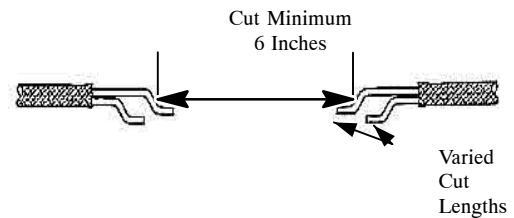

Figure 24. Jumper Wire Repair
- e. If a jumper wire is not required, remove a 2 inch section of wire in the damaged area as shown in Figure 24.
- f. If jumper wire must be used remove 6 inches of wire as shown in Figure 24.